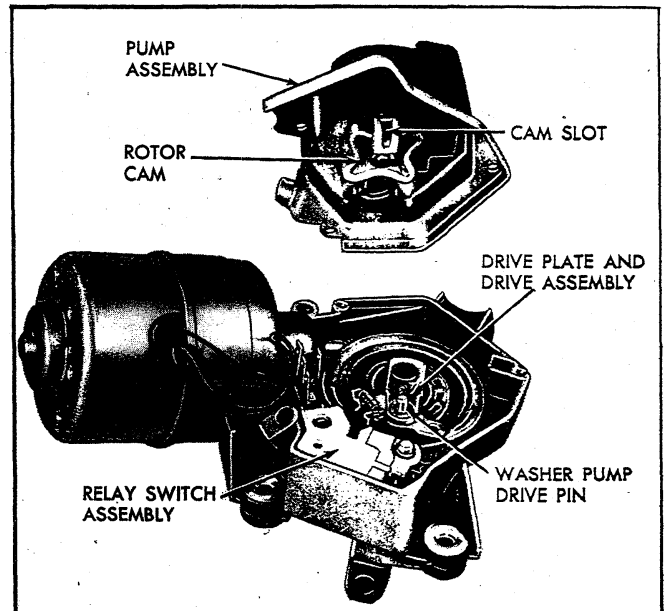

Fig. 75 - Wiper and Washer Pump Mechanism
section and controls the starting and stopping of the wiper through a latching mechanism (fig. 75).
An electric washer pump is mounted on the gear box section of the wiper and is driven by the wiper unit gear assembly (fig. 75).
6. Assemble gear box cover and washer pump assembly to wiper being careful that the ground strap is properly connected. Refer to Figure 75 for assembly of washer pump to gear housing.